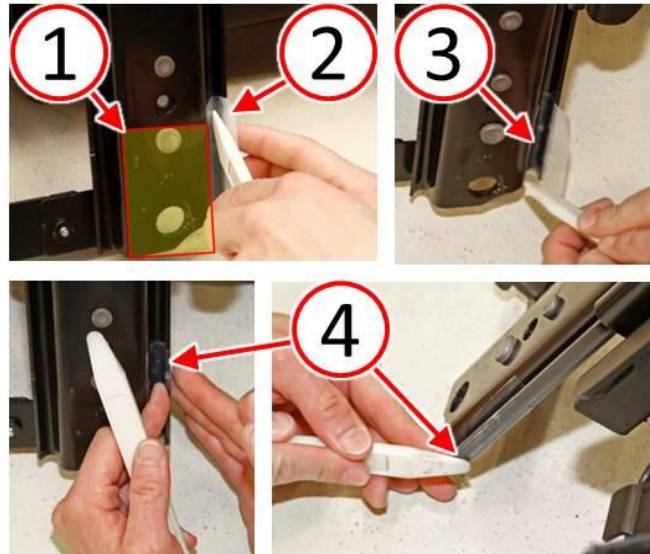

Fig. 6 Apply Tape To Inner J-Rail Rear Edge
13. Apply the tape (2) to the lower inner J-rail, taking care not to apply the tape to the underside of the seat track area (1) where it will contact the body mount (Fig. 6).
14. Using fingers and a trim stick or equivalent, firmly press on the tape to ensure complete contact of tape to J-rail surface (3) without air gaps (Fig. 6).
15. Wrap the tape (4) over the J-rail and ensure the tape is fully adhered to the outer surface of the J-rail without air gaps (Fig. 6).